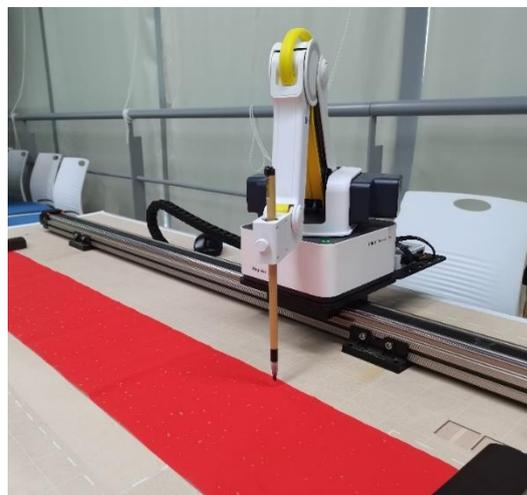

Figure 5.62 Save the first point
3. Press the **Unlock** key on the forearm, move the forearm over the drawing area, and release the **Unlock** key to record the first point. as shown in Figure 5.62.